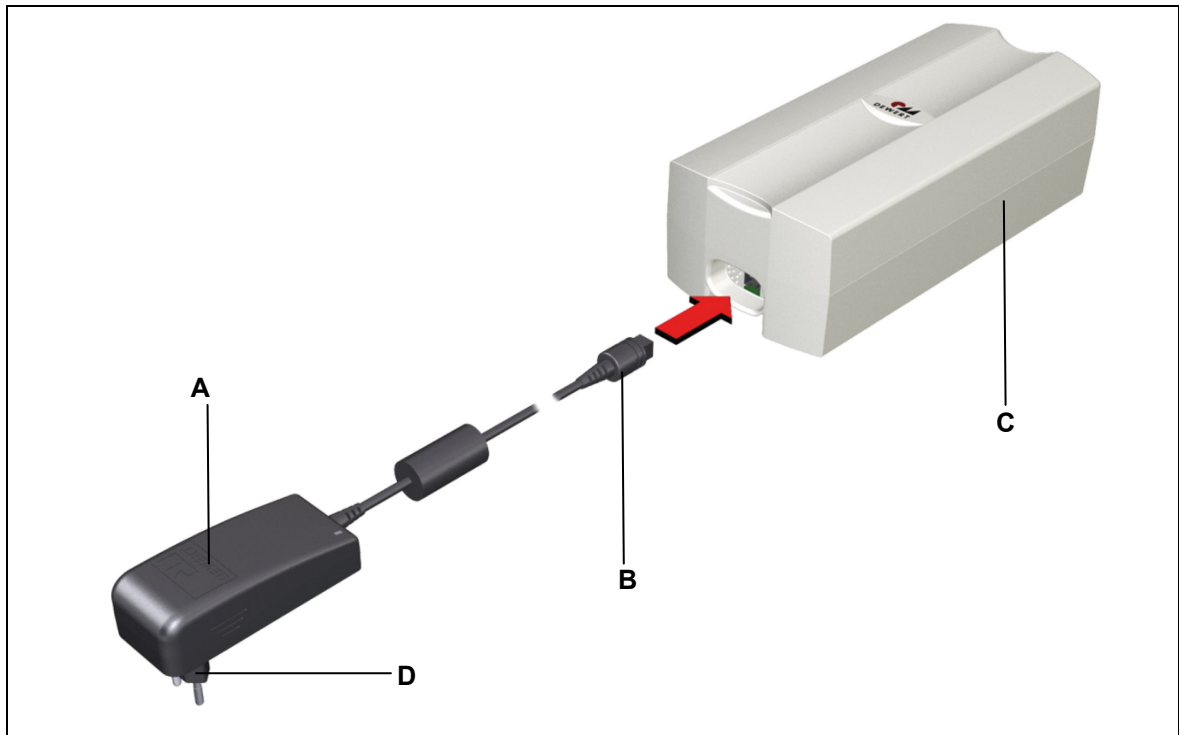

Figure 17 The ACCU AC 4.5 and the ACCU AC 4.5DC are charged directly with the PLUG-IN CHARGER PB 4.5.
- 3 Connect the PLUG-IN CHARGER PB 4.5 to the ACCU (as shown in Figure 17).